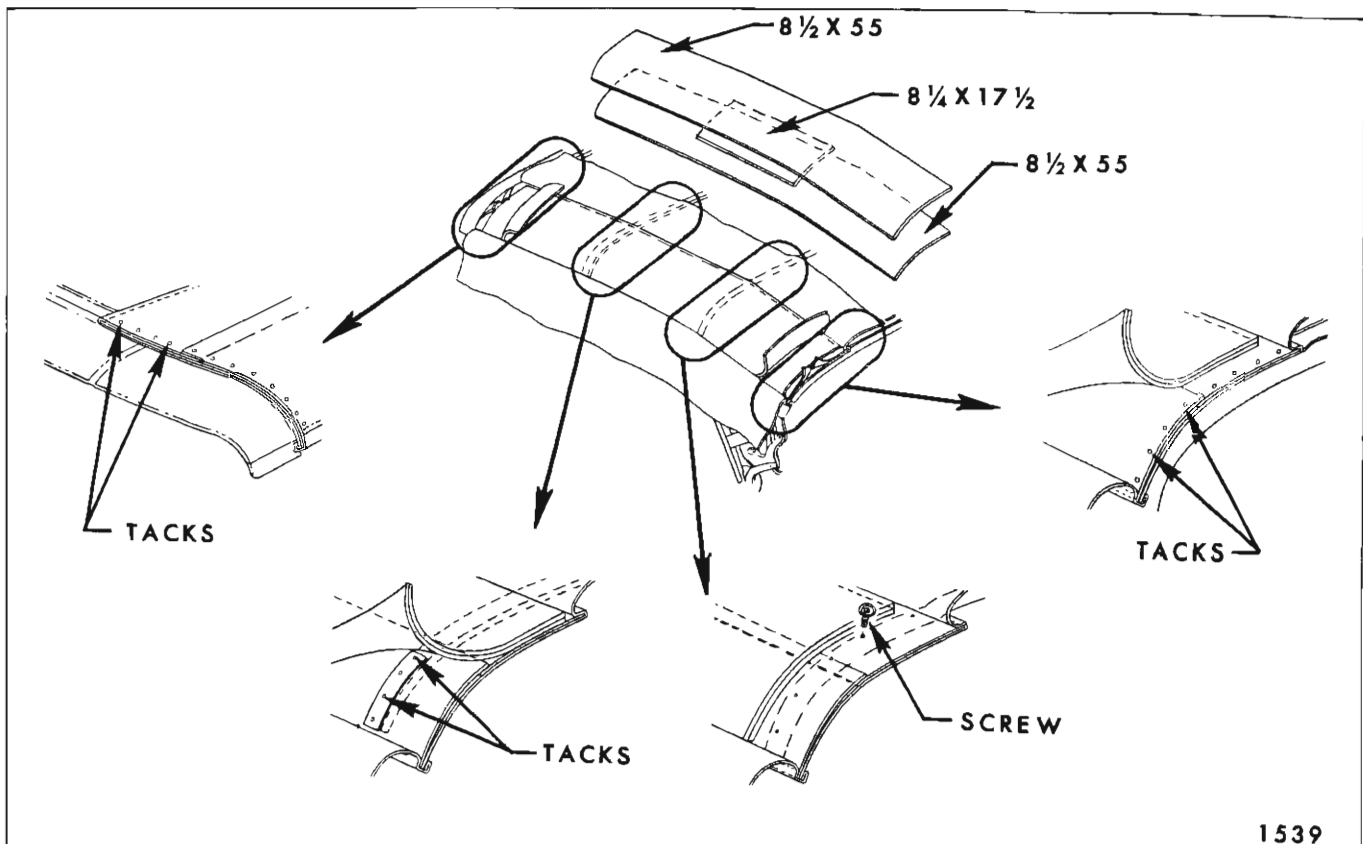

Fig. 1-I-12—Side Stay Pad Installation
pre-set spacer sticks to shortest length and install between center and rear roof bow (Fig. 1I9). Adjust sticks so that dimension "X" in Figure 1I9 (measured along spacer stick from front upper rolled edge of rear roof bow to center of center bow) is 14-7/8". Tie or tape rear bow to rear side roof rails.
2. Tack side stay pads in conventional manner to rear roof bow and stay tack pads to front roof rail. Make sure inboard edge of pad is properly aligned within depressions in bow and rail. Stay tack pad to front bow. Install pad to center bow with screws. Make sure inboard edge of pad is properly aligned within depression in bow. Install stay pad wadding in conventional manner using an approved trim cement. (See Fig. 1I12 for 16-25-26-35-36-45-46000 Series. See Fig. 1I13 for 38-48-68000 Series).
3. Trim selvage end of side stay pads just forward of rear rolled edge of rear roof bow (Fig. 1I14).